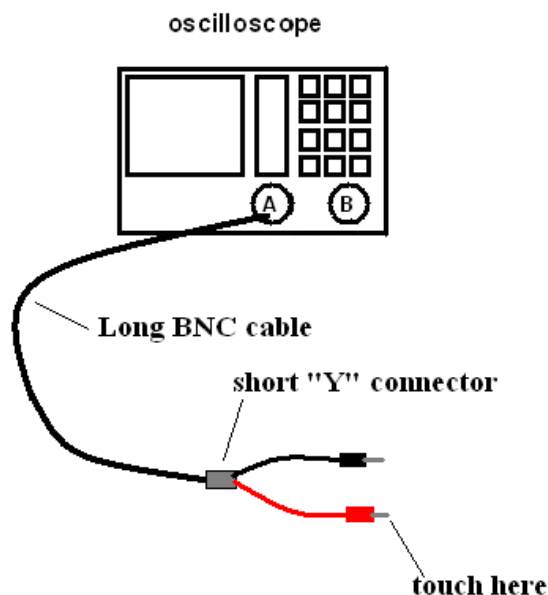

Figure 7.5: Setup to detect AC noise.
1. To observe the AC noise signal, touch the red end of the cable connected to the oscilloscope with your finger (as indicated in Fig. 7.5).